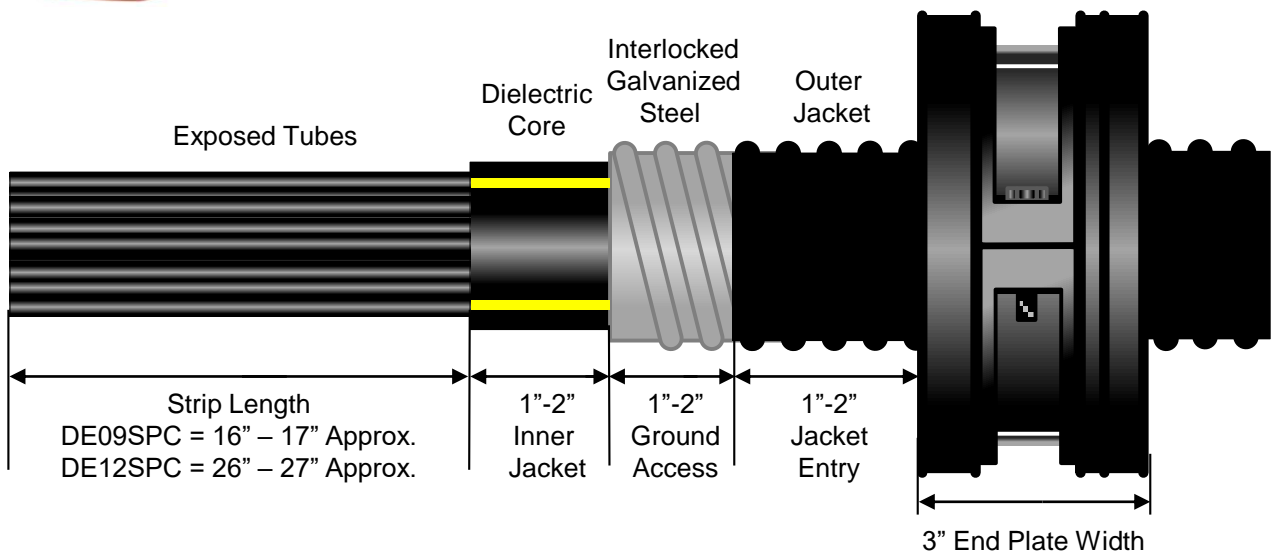

Figure 4
6.6.2 If installing metallic / armored tube cables, see **Fig. 4**. Allow for about 1" - 2" of outer jacket beyond the End Plate inside the Splice Case and mark jacket. Also allow additional jacketing material for attachment of Grounding & Bonding